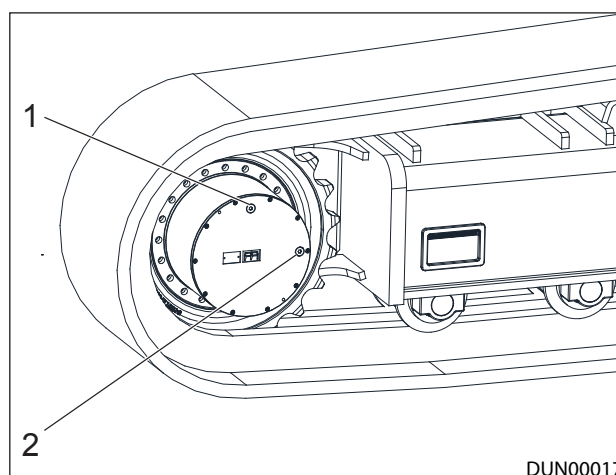

Figure 9.14 - Gearbox Oil Level Fill Position
1. Move the machine to a level surface and bring the oil drain holes to the position shown in Figure 9.14.
5. Fill the oil through the upper hole (Item 1) until it runs out through the lower hole (Item 2), Ref: Figure 9.14.